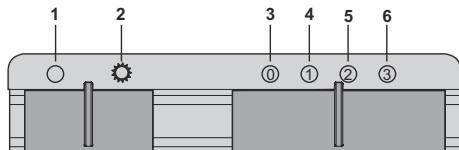

Fig. 18
1. → Bring to this position to turn off the lamp (Fig. 18).
2. → Bring to this position to turn on the lamp (Fig. 18).
3. → Bring to this position to turn off the lamp (Fig. 18).
4. → Bring to this position when you want to operate the product in 1. speed (Fig. 18).
5. → Bring to this position when you want to operate the product in 2. speed (Fig. 18).
6. → Bring to this position when you want to operate the product in 3. speed (Fig. 18).